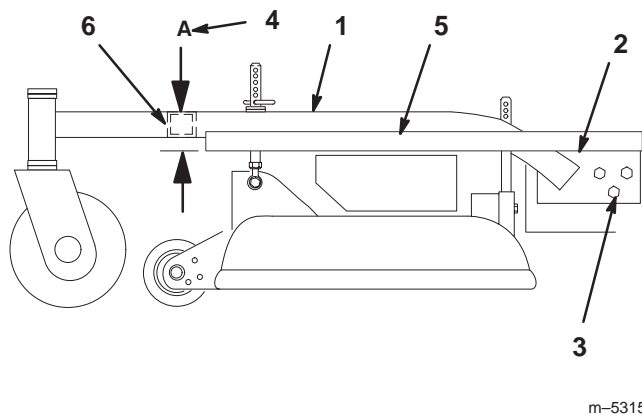

Figure 43
2. Place a long straight edge on top of the engine deck as shown in figure 43.
- At the carrier frame cross tube, measure location "A" height (Fig. 43). This measurement must be 2-13/16 in. (71 mm), plus or minus a 1/4 in. (6 mm)
- Loosen the carrier frame mounting bolts on both sides of the machine (Fig. 43).
- Align the carrier frame and engine deck to match 2-13/16 in. (71 mm), plus or minus a 1/4 in. (6 mm) at location "A" (Fig. 43).